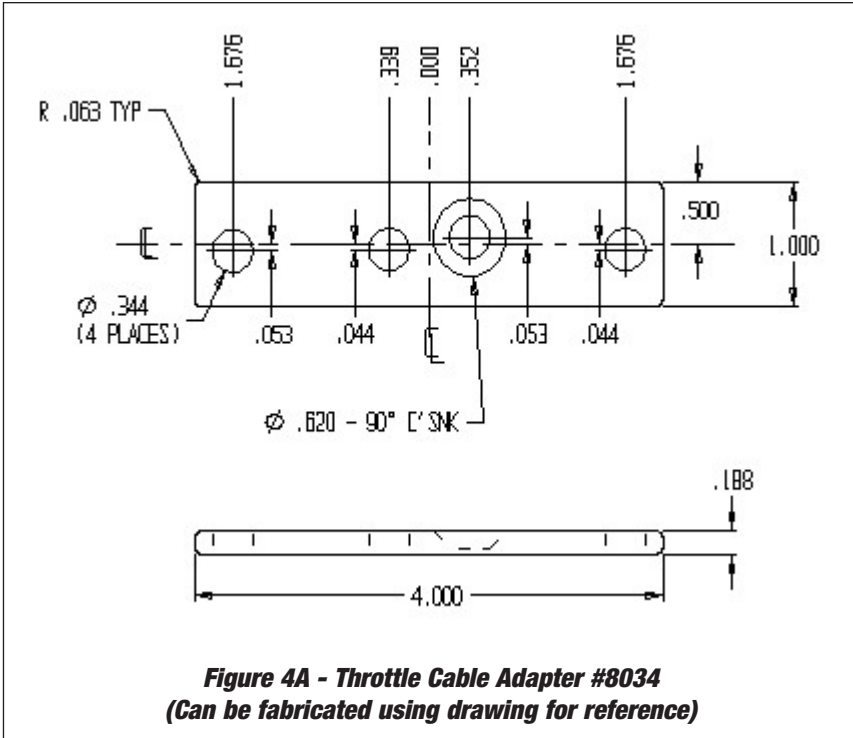

Figure 4A - Throttle Cable Adapter #8034
2. Some vehicles with 4-bbl carburetors will require a throttle bracket extension plate to move the throttle bracket forward (**See Figures 4A and 4B for bracket assembly**). This part is available as Edelbrock #8034.